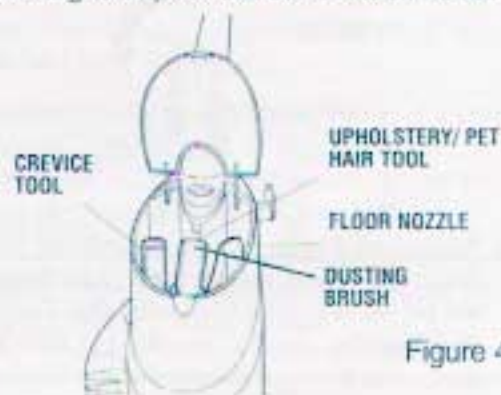

Figure 4
C. TOOL STORAGE COMPARTMENT: (Figure 4)